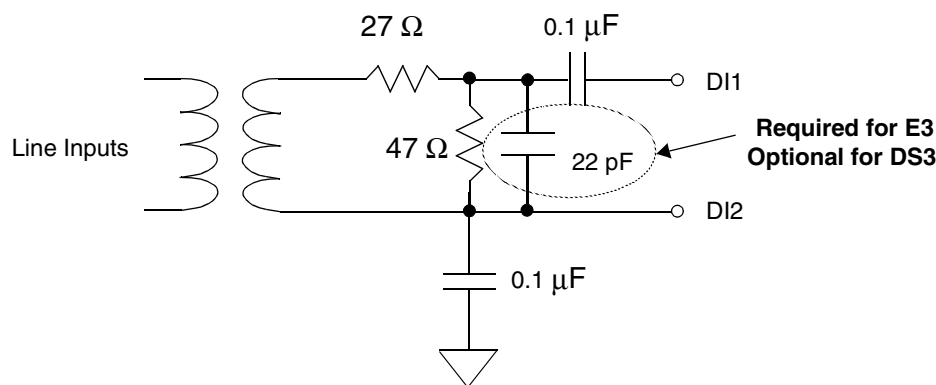

Figure 35. Suggested Single-Ended Termination Circuit for Non-Monitor Functions
9. Figure 35 is the circuit suggested for future board designs in a non-monitor, non-redundant function. The attenuation circuit will prevent the AGC from operating near the limits of its linear range.